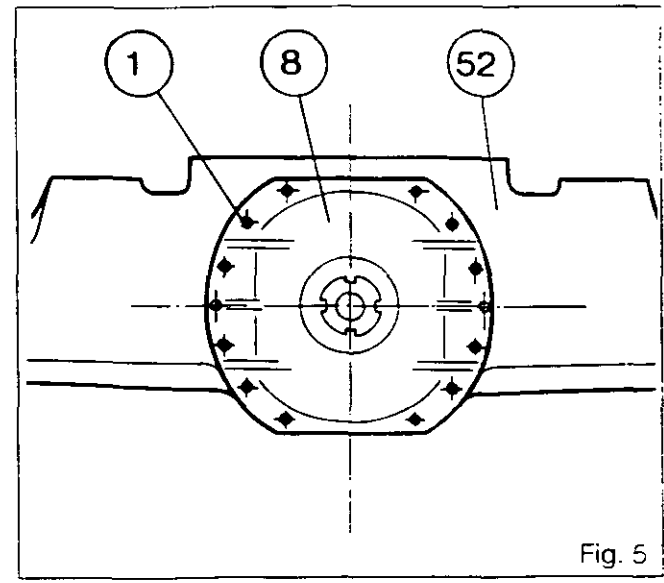

Fig. 5
- 15. Remove the bolts (1). Detach and remove the differential case assembly (8) (Fig. 5).